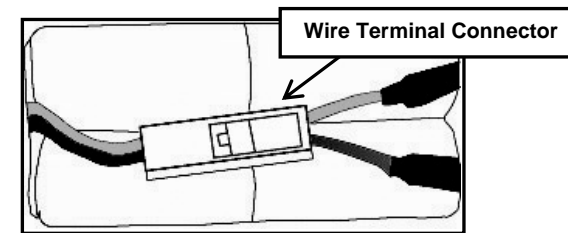

Fig. 4
3. Carefully lift out the battery pack and disconnect the wire terminals by pulling apart the wire terminal connector. Remove the battery pack from the unit. (Fig. 4)